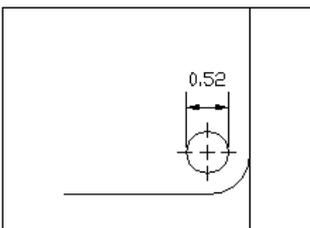

Figure 15-20: Dimension text is placed over the dimension line without a leader.
- ♦ **Over the Dimension Line, without a Leader:** Places the dimension text over the dimension line, between the extension lines, but above them, with no leader, as shown in Figure 15-20. You can move the text anywhere.